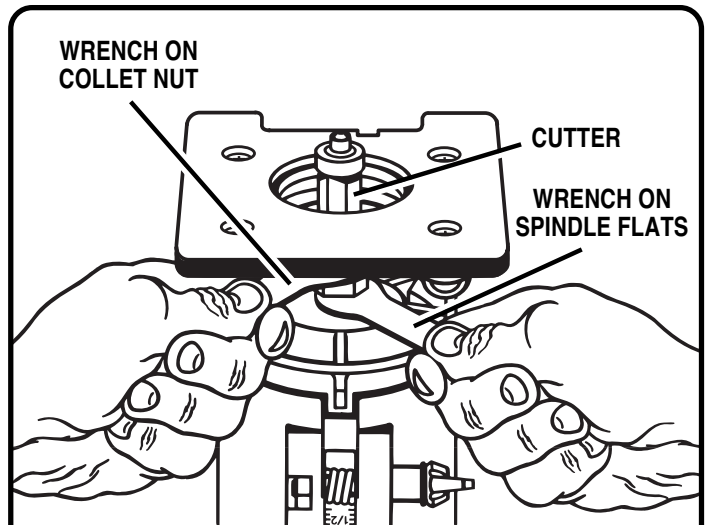

Fig. 3
See Figure 3.
- Place the large end of the other wrench provided onto the collet nut. Rotate wrench counterclockwise to loosen collet nut. See Figure 3.
- Tighten the collet nut securely by turning clockwise with the wrench provided. See Figure 3.